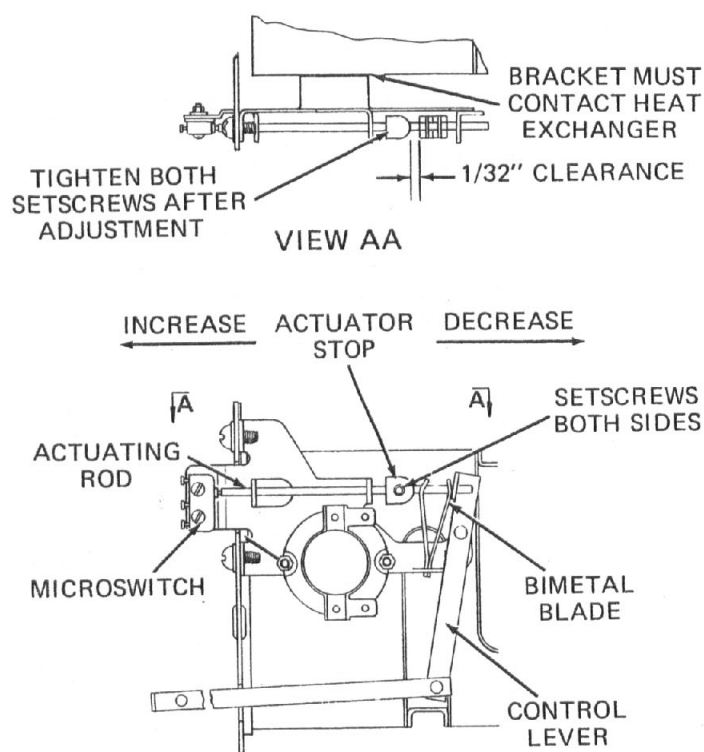

Figure 8. HI-LO Control and Microswitch Adjustment
b. The V-shaped bi-metal blade (figure 8) expands to widen the gap at the top of the V when heated. As the bi-metal blade expands, it strokes the actuator stop and pushes the actuating rod against the microswitch. This causes the heating circuits to deenergize.